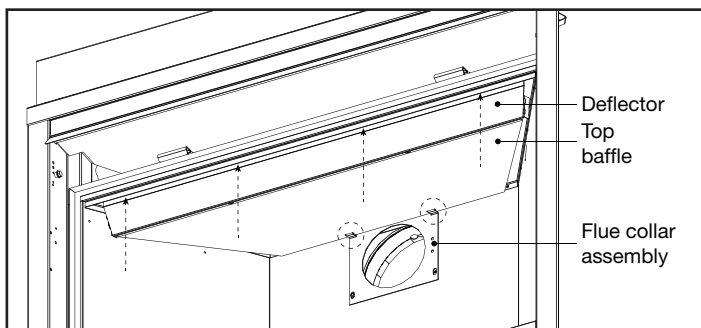

Fig. 4
- G.** Replace the deflector. Rest the front edge of the top baffle in the four slots on the deflector. Rest the rear edge of the top baffle (complete with deflector) on the tabs of the flue collar assembly. Reattach the deflector (complete with top baffle) using the four screws removed in step C (**Fig. 4**). Install the log set, glass door and safety barrier.